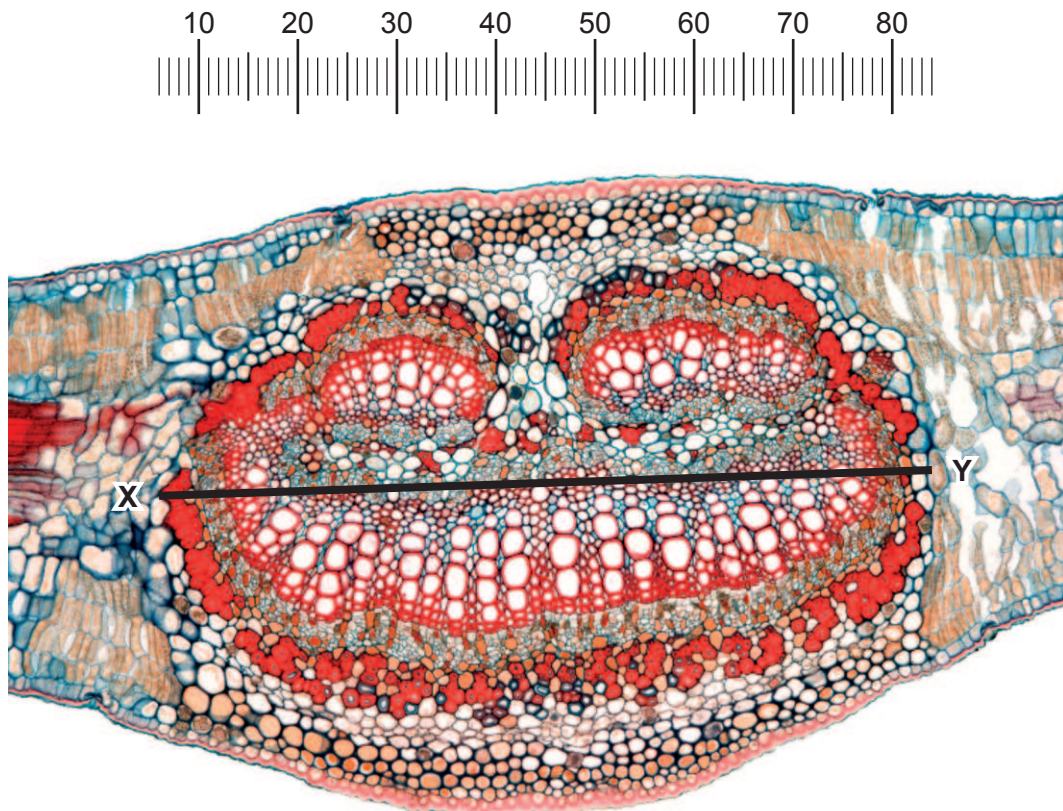
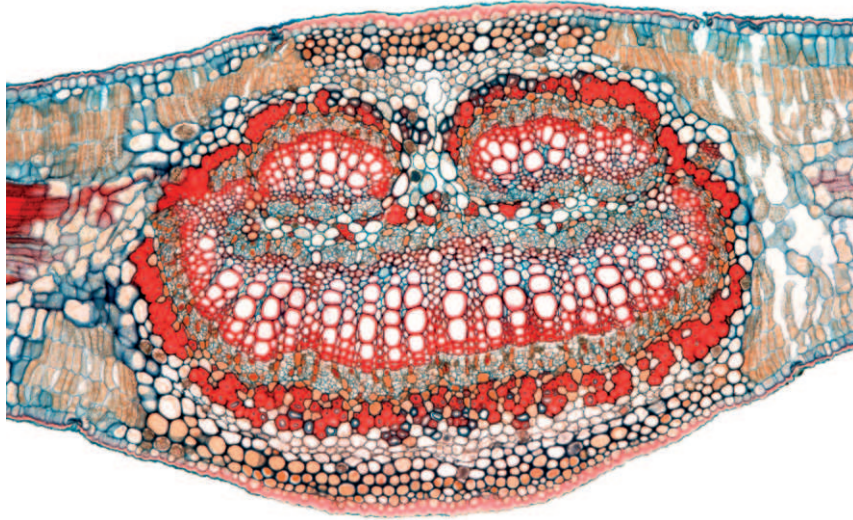

Fig. 2.2
Fig. 2.3
- (b) Fig. 2.2 is a photomicrograph of a stained transverse section through the midrib of a leaf of a different type of plant.
An eyepiece graticule scale is shown on Fig. 2.2.
- (i) Use the calibration of the eyepiece graticule on Fig. 2.2 to calculate the actual width of the vascular tissue, shown by line X–Y.
- (c) Fig. 2.3 is the same photomicrograph as in Fig. 2.2 but without line **X–Y** and the eyepiece graticule scale.
Prepare an appropriate table so that it is suitable for you to record the observable differences between the midrib of the leaf on **L1** and Fig. 2.3.